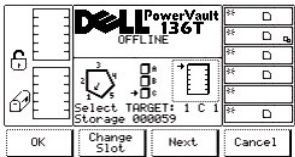

Figure 37. Command > Move > Position Picker > Change Slot Dialog
- 1 If the button beneath the **Next** softkey is selected, the current source parameter changes from magazine to slot and the Change Slot Dialog is displayed. Refer to Figure 37.